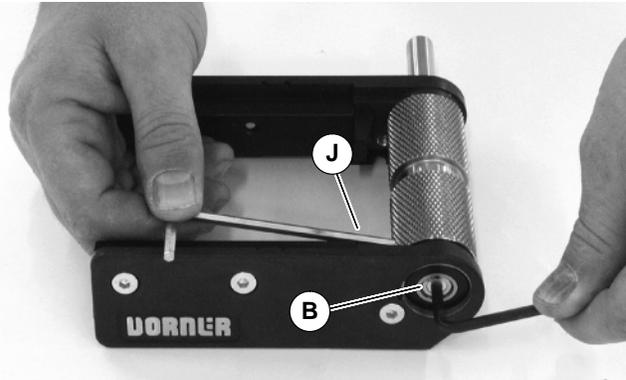

Figure 23
6. On side opposite of drive shaft, loosen pulley taper screw (B of Figure 23) with 4mm hex-key wrench. Steady pulley with second hex-key wrench (J) inserted into pulley hole.